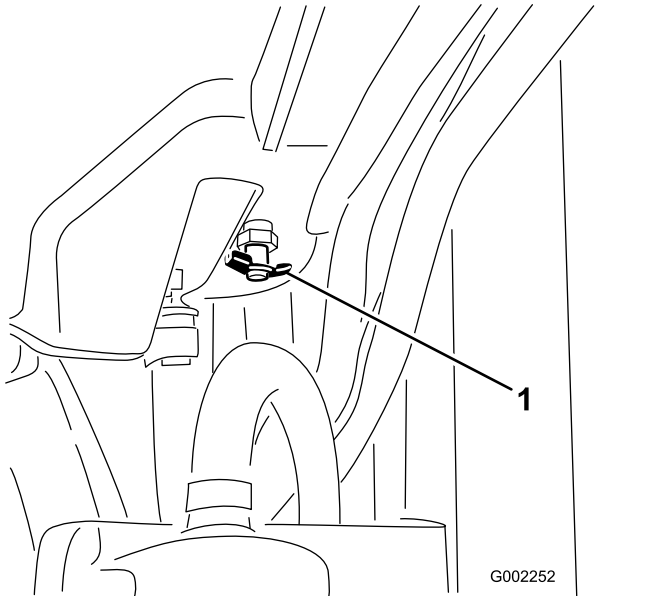

Figure 86
- Open the drain valve and drain the coolant into the pan (Figure 86).
- Remove the radiator cap (Figure 86).
- Once the coolant has warmed up, top off the coolant level to the sealing surface of the cap and tighten the cap (Figure 86).
- Open the expansion-tank cap and fill the tank with coolant to the Cold level (Figure 86).